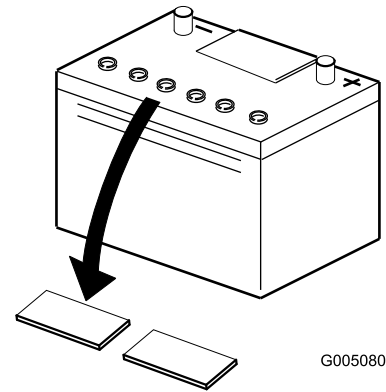

Figure 5
- Clean the top of the battery and remove the vent caps (Figure 5).